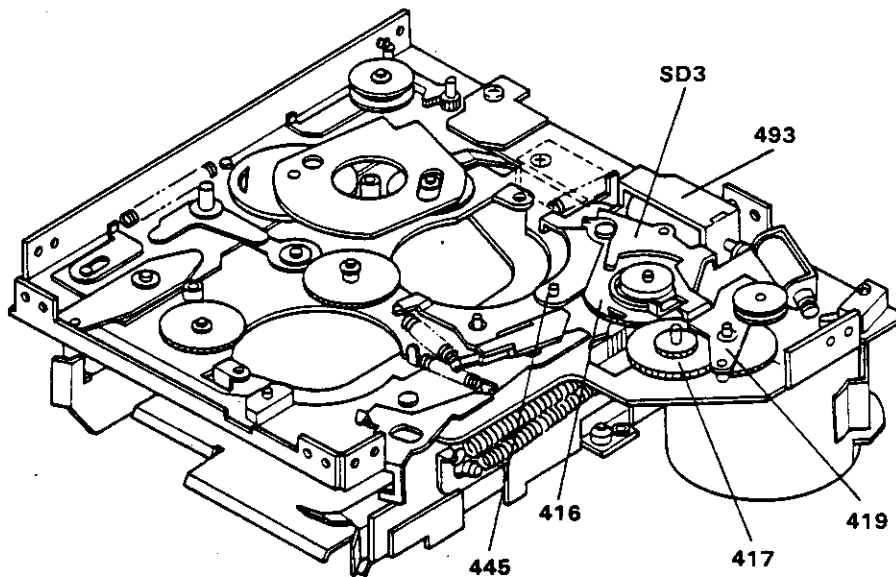

FIGURE 4-2. PLAY MODE
1. Play - When a cassette is inserted to the tape slot, it is pulled inside the slot by approx. 59mm from the reel center. The cassette is then automatically held in the playback condition with location poles which function as guides on the chassis. At the same time, a micro switch provided on the right of the motor closes, and then the Play Solenoid (SD3) is energized, moving Play Solenoid Lever (493) which in turn moves Pause Gear (416) thus engaging the Gear (416) (rotating with the motor) with the Idler (417) (see Figure 4-2).
2. Key-Off Pause - When Key-Off or Pause SW is turned off in the playback mode, Play Solenoid (SD3) is energized, and Play Solenoid Lever (493) and Play Lock Lever (445) are released. Then, Pause Gear (416) engages with Eject Idler Gear (417), and this returns to HD Base (432) to Eject position, thus stopping the motor (see Figure 4-2). Playback operations mentioned above takes place with Key-On.